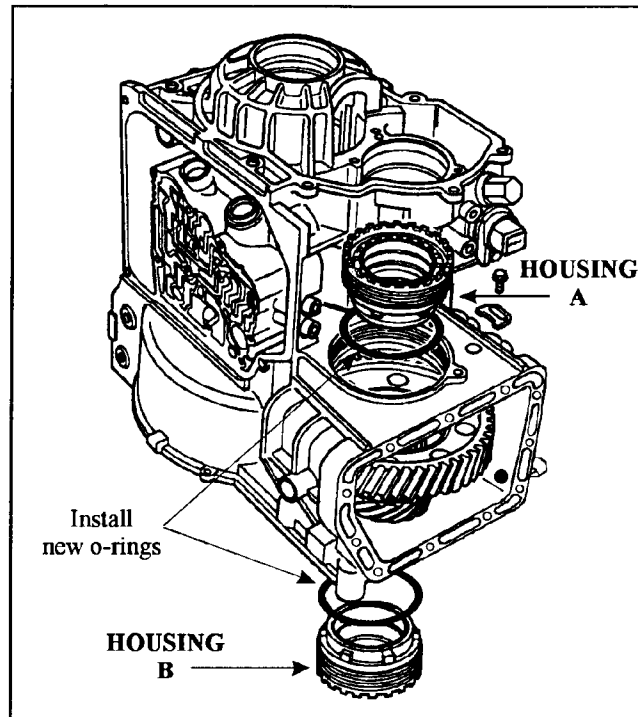

Figure 104
3. Place new o-rings on the differential bearing housings and coat with vaseline or ATF. Coat the bearing races with gear oil, and carefully turn the bearing housings clock wise into differential housing (See Figure 104). Using tool VW 3155 or equivalent torque housing "A" to 111 ft.lb. Torque housing "B" to 37 ft.lb. Make a mark on housing "B" and tighten exactly 5 lugs further. This will give you your differential preload. When adjusting the differential preload, do not turn the ring gear as it will settle the bearings and the ring gear preload will be incorrect.